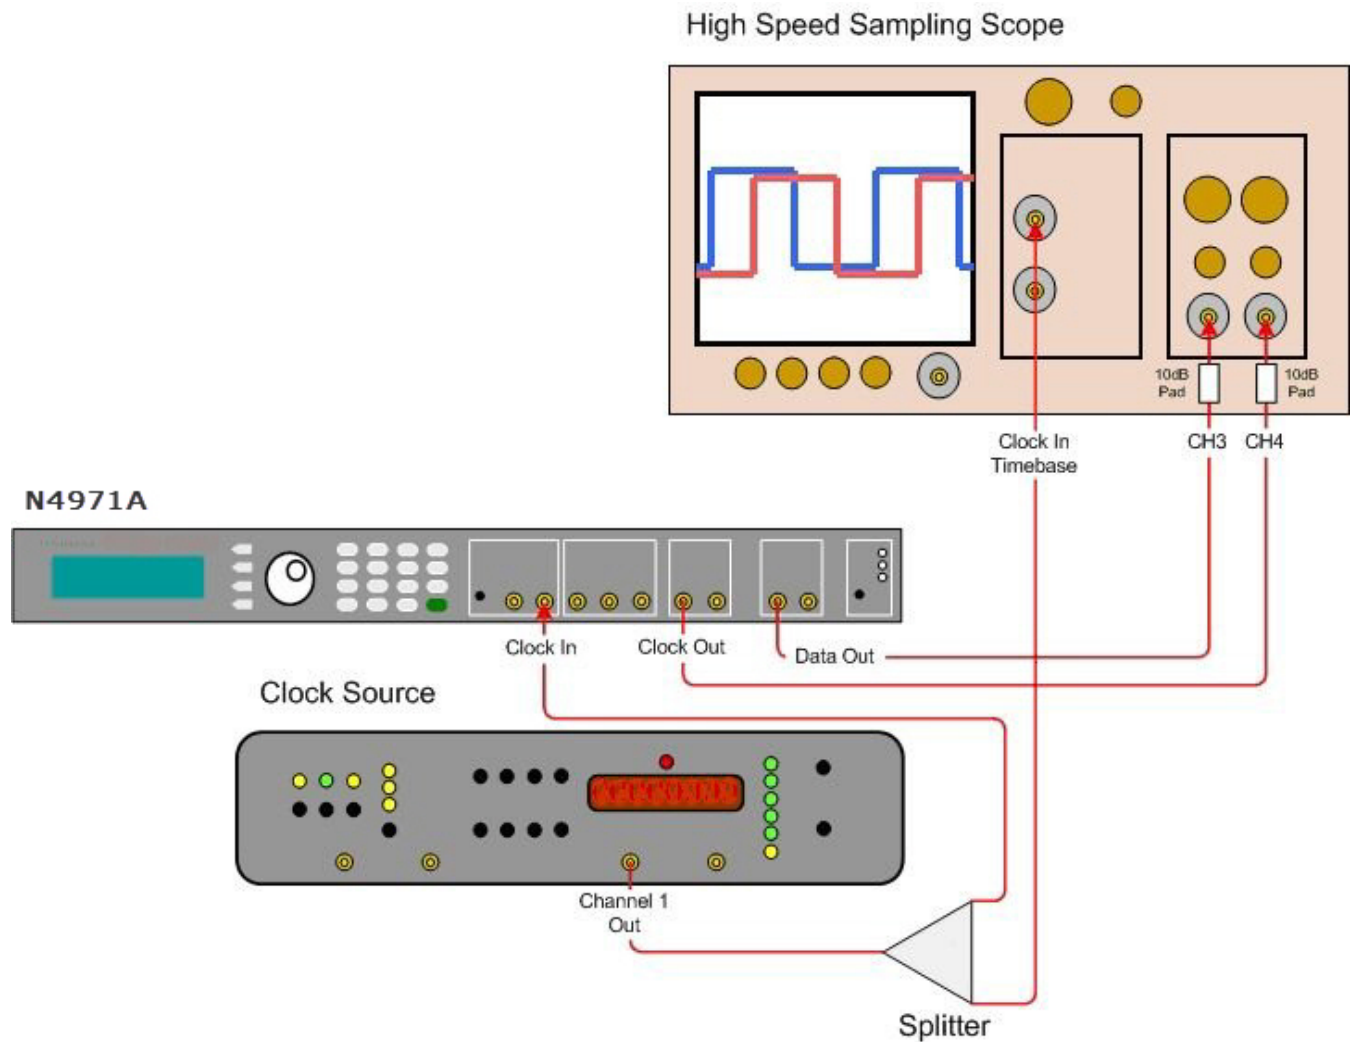
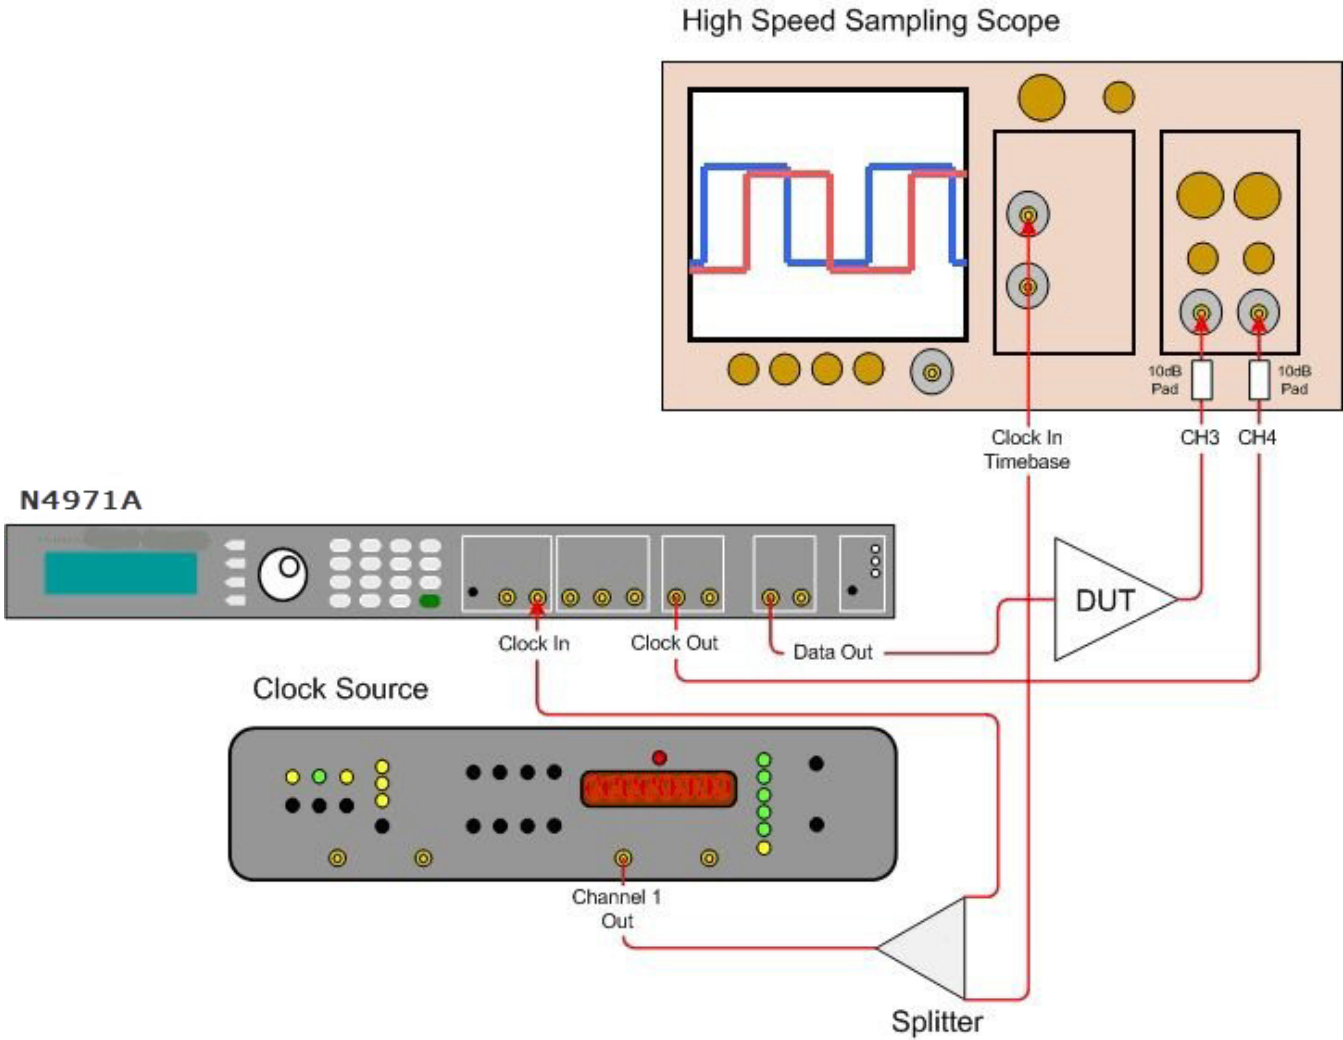

Figure 21. Setup for measuring N4971A jitter
Figure 23. Setup for measuring DUT jitter
The following procedure is used to characterize jitter. Before measuring the jitter of a device under test (DUT), you must consider the jitter of the N4971A. Figure 21 is a setup for measuring the jitter of the N4971A. Figure 23 is a setup for measuring the jitter of a typical device under test (DUT).
1. Connect the N4971A to a clock source and high speed sampling scope as shown in Figure 21. Tighten cables to 8 lbf-in (90 N-cm) and use 50 Ω terminations on all unused ports.
7. Figure 23 is an example of a setup for measuring the jitter of a DUT.